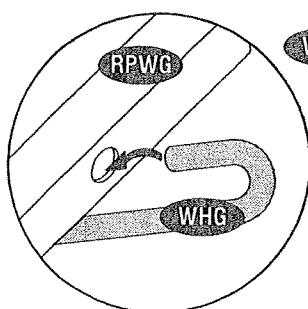

Fig.1
23. Place the Roof Panel Window (RPWG) on top of the Roof Panel (RP2AG). Fix the hinges through the roof panel to Hinges Support (HS) with (S1) screws see fig.
24. Insert the Hook (WHG) to the Roof Panel Window (RPWG) see fig. 1.